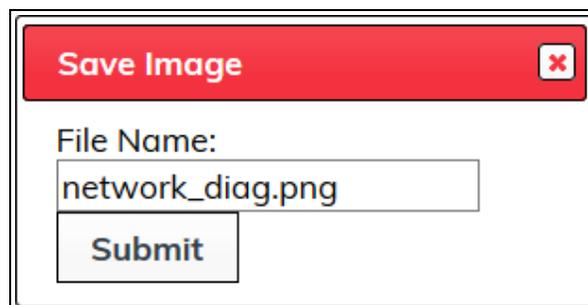

Figure 182: Save Image dialog box
7. In the **Save Image** text box, enter a descriptive name for the network image and click **Submit**. Figure 182